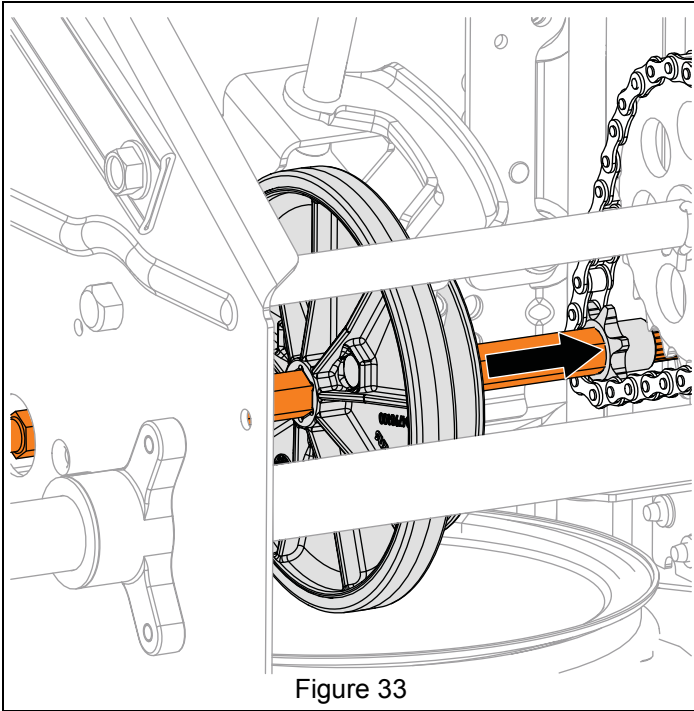

Figure 33
2. Reinstall hex shaft through friction disc, pinion sprocket and into frame. See Figure 33.